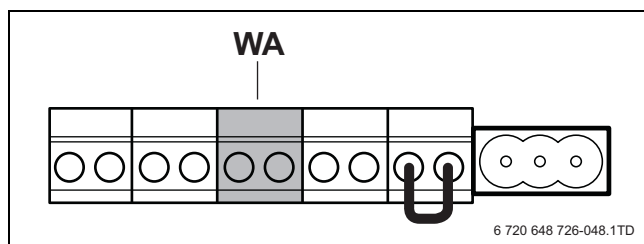

Fig. 48 Terminal strip - potential-free heat demand (connection colour green)
- ▶ Connect the potential-free heat demand contact to the green WA terminal (→ fig. 48). The maximum allowed resistance of this circuit is 100 Ω. Use a 2-core cable of 0.75 mm2.
- ▶ Connect the 230 Volt converter (grey box) via the pair of black low voltage cable to terminal WA. (→ figure 48).